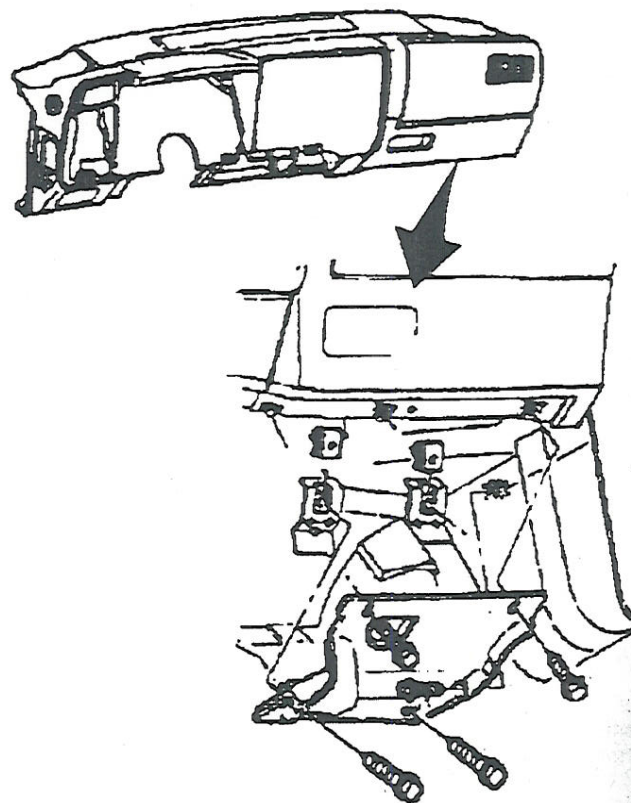

Fig. 23 Righthand instrument panel sound insulator removal. 1997 S & T Series & Bravada
8. Remove knee bolster, then the righthand instrument panel sound insulator as illustrated in Fig. 23.